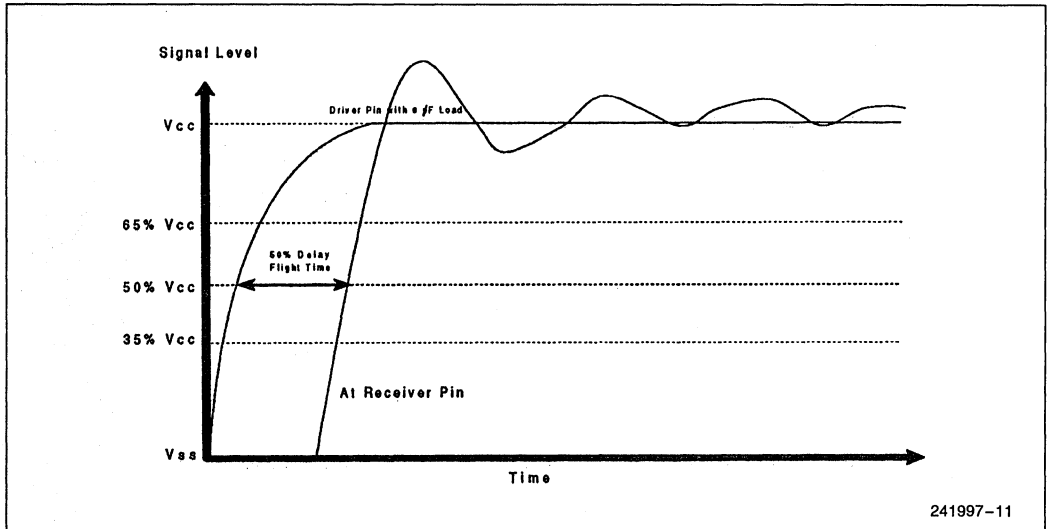

Figure 11. 50% VCC Measurement of Flight Time
30. This is a flight time specification, that includes both flight time and clock skew. The flight time is the time from where the unloaded driver crosses 1.5V (50% of min VCC), to where the receiver crosses the 1.5V level (50% of min VCC). See Figure 11.